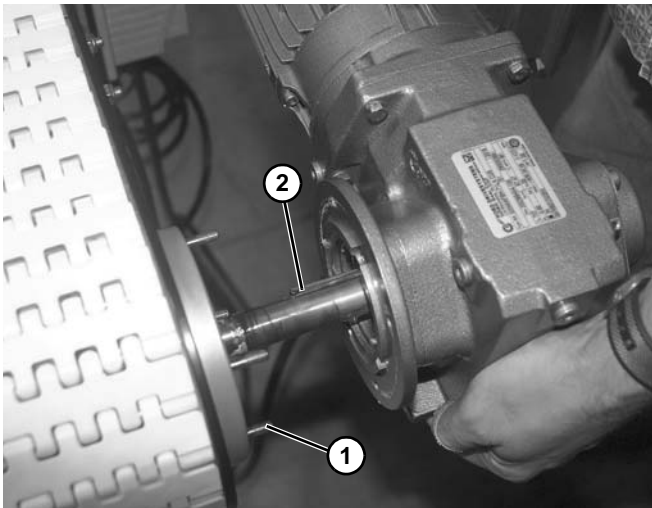

Figure 140
2. Remove drive motor off of motor mounting flange studs (**Figure 140, item 1**), while noting key (**Figure 140, item 2**) on motor drive shaft.